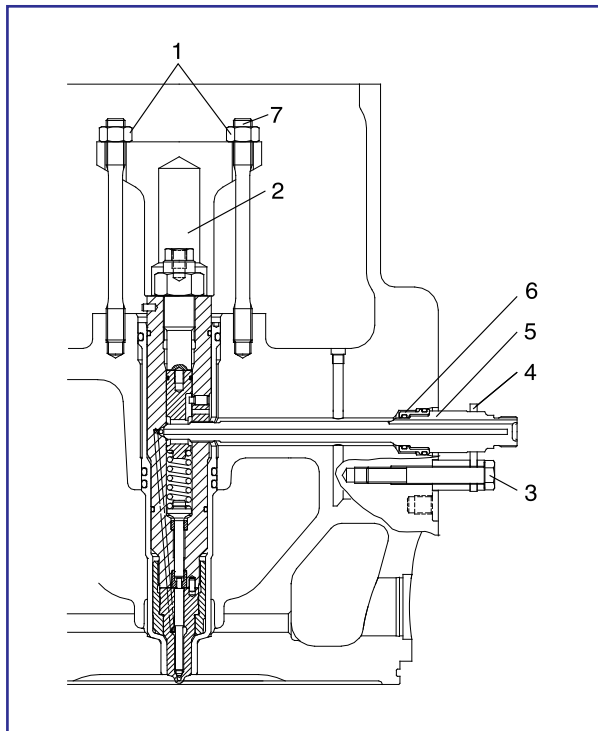
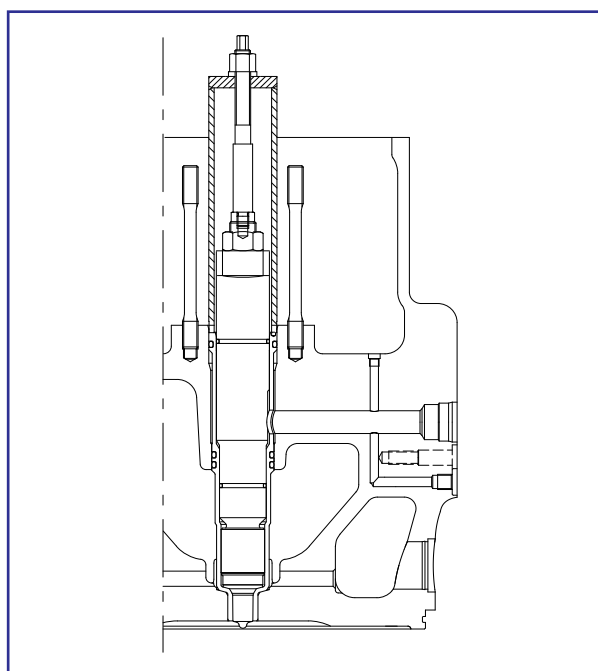

Fig 1 Fuel injection valve assembly.
Fig 2 Extractor tool mounted on fuel injection valve
- 2) Dismantle the delivery pipe between the fuel pump and the lance (5) fig 1
- 3) Remove the nuts (1) and the thrust piece (2)
- 4) Unscrew the screw (3) and remove the locking device (4)
- 5) Unscrew the lance (5) and remove it from the cylinder head.
- 6) Install the extractor tool, see fig. 2 and pull out the fuel valve.